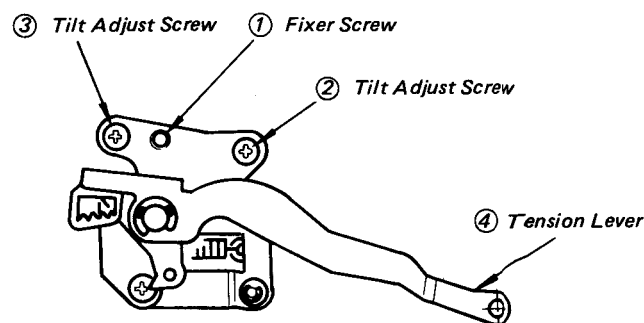

Fig. 5-120 Adjustment of the Tilt Screw
If there is the cross portion in the envelope, adjust the screw ③ as shown in Fig. 5-120 by a half quarter turn to eliminate it.